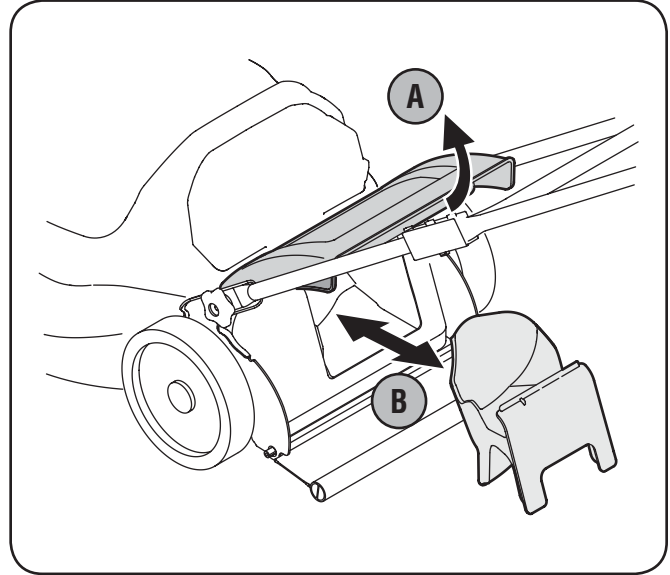

Figure 3-7
2. Install rear mulching baffle. See Fig. 3-7.
2. Make sure the rear mulching baffle is installed. See Fig. 3-7.